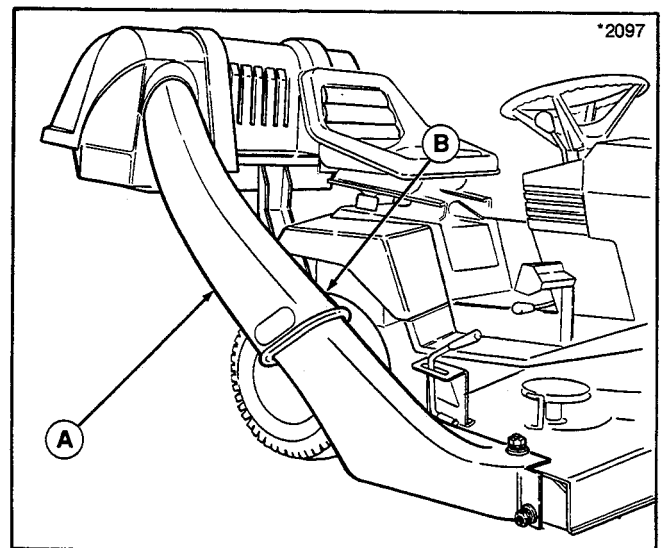

Figure 16.
20. Apply dry talc powder to rubber seal at cover opening. Install tube (A, figure 16) as far as possible into opening to clear adapter and install over adapter.